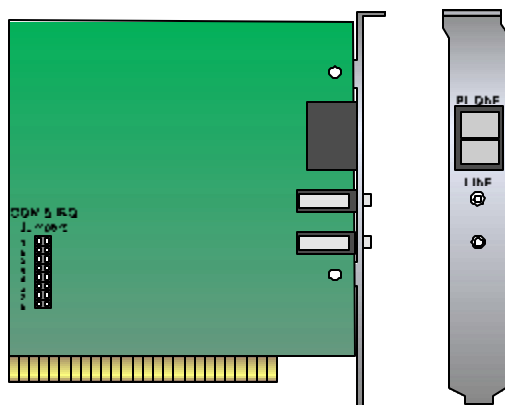

Figure 5: Internal modem with COM, and IRQ jumpers.
- ✓ Configure (i.e. assign a communication port) the internal modem as COM3, IRQ 5. Depending on the model, the internal modem can be configured either using software or using jumpers on the modem card as shown in Figure 5.